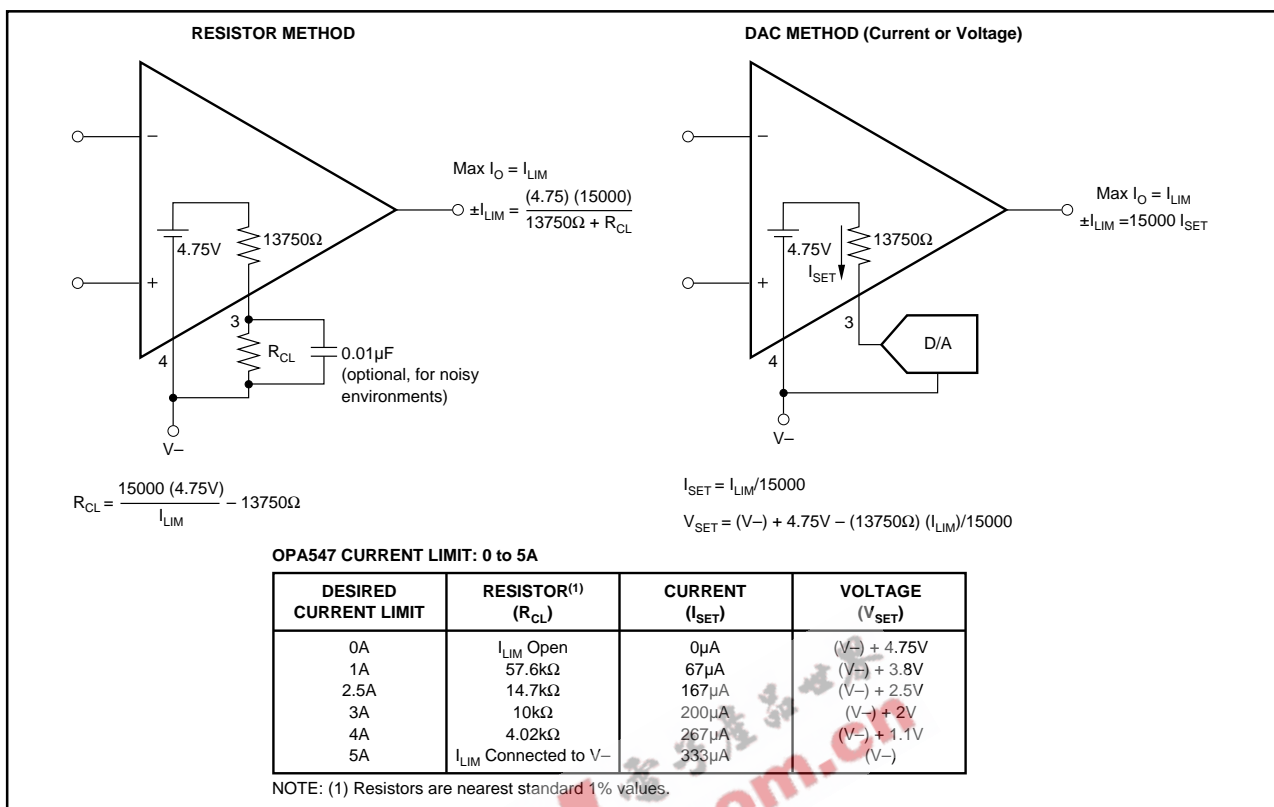

FIGURE 3. Adjustable Current Limit.
Figure 3 shows a simplified schematic of the internal circuitry used to set the current limit. Leaving the  $I_{LIM}$  pin open programs the output current to zero, while connecting  $I_{LIM}$  directly to V- programs the maximum output current limit, typically 5A.
NOTES: (1) Works well for  $G < 10$ . Input offset causes output current to flow between amplifiers with  $G > 10$ . Gains (resistor ratios) of the two amplifiers should be carefully matched to ensure equal current sharing. (2) As configured ( $I_{LIM}$  connected to  $V-$ ) output current limit is set to 10A (peak). Each amplifier is limited to 5A (peak). Other current limit values may be obtained, see Figure 3, "Adjustable Current Limit".